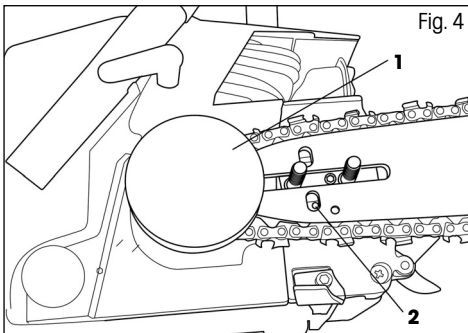
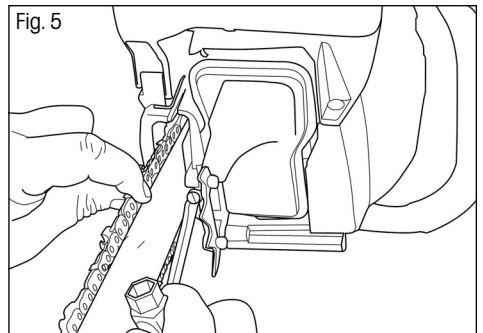

Fig. 4
Fig. 5
⚠ ATTENTION! The chain tensioning pin must fit into the hole in the guide bar (Fig. 4, point 2). The position of this pin can be adjusted using the chain tensioning screw (Fig. 5)
- ✿ Tension the chain using the tensioning screw (Fig. 5) and then tighten the sprocket cover nuts using the included tubular wrench
- ✿ Use a screwdriver to turn the chain tensioning screw (Fig. 5). Turn the tensioning screw until the required tension is achieved (you should lift the chain in the middle of the guide bar in the horizontal position to a height of 3 to 4 mm).